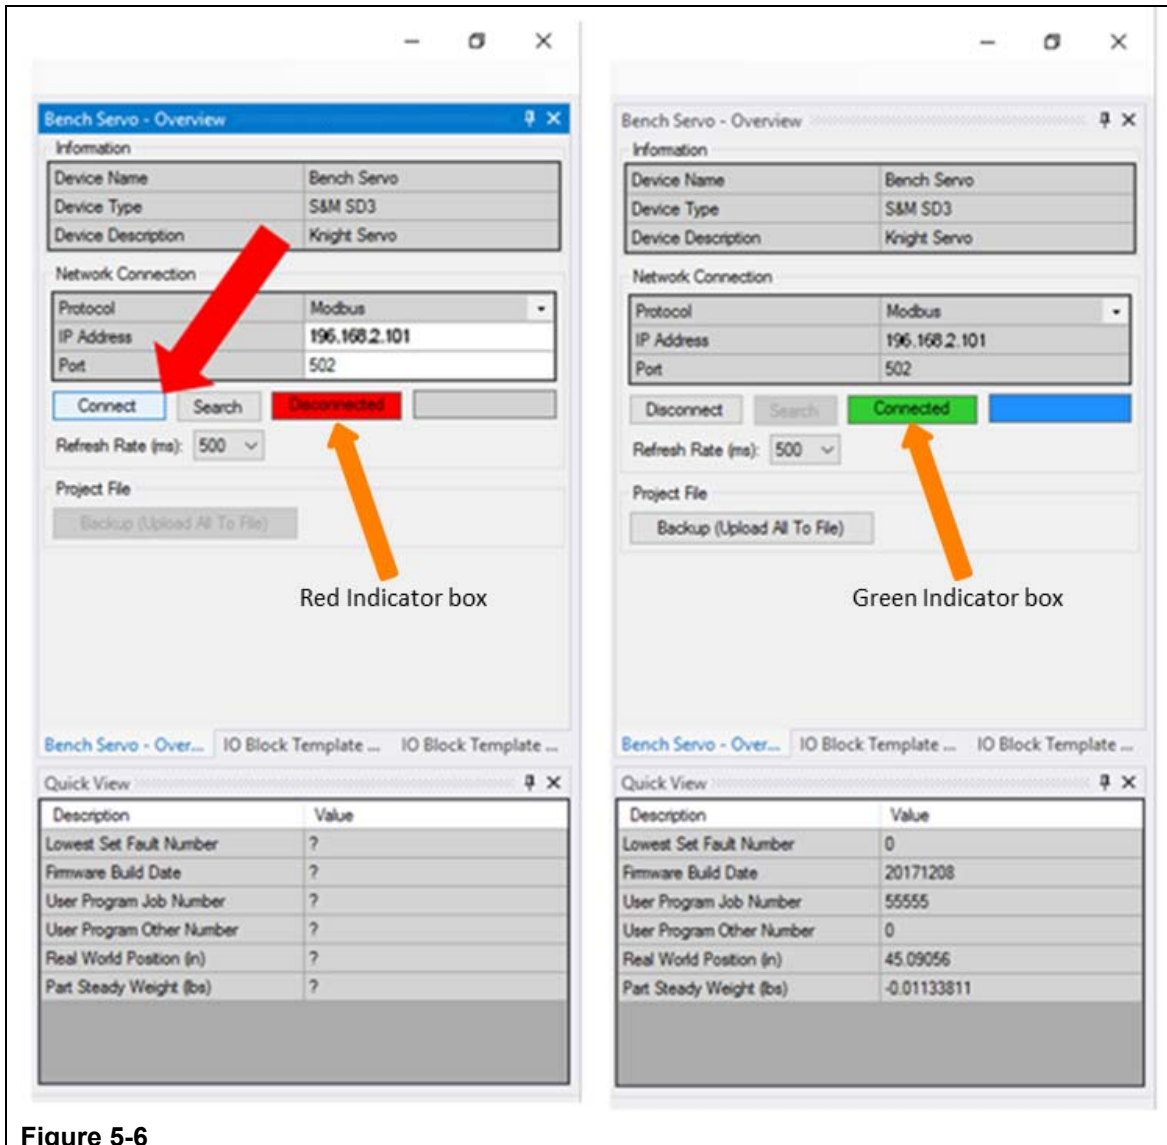

**Figure 5-5**
- Step 3. Double click on the blue Knight Servo Studio software icon located on the desktop and allow the Knight Servo Studio software to load. (Refer to Figure 5-5)
(Refer to Figure 5-5)